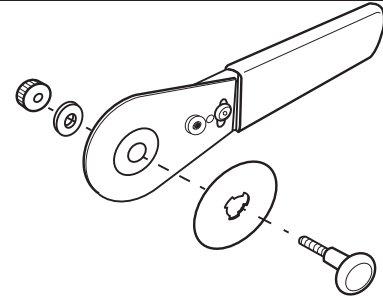

Fig. 4
1. Align squaring bars over board slots (Fig. 4).